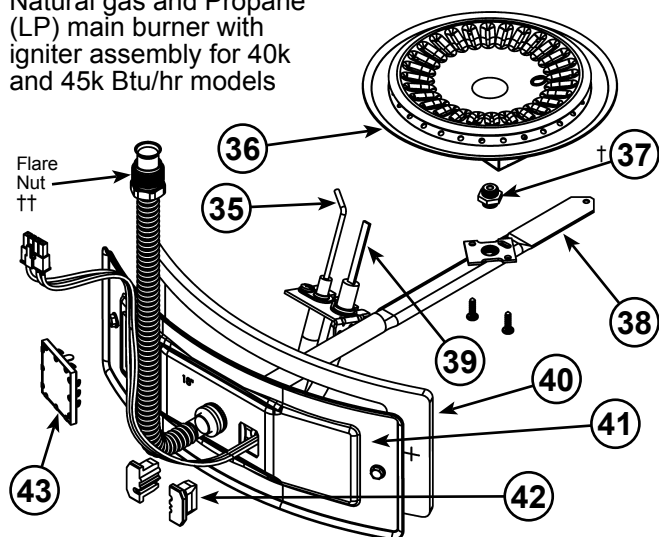
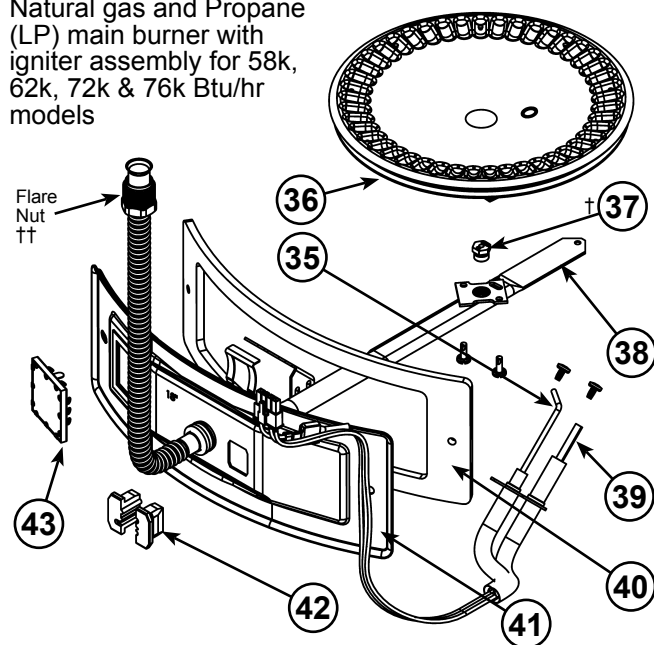

Figure 48
Figure 49
- 15 Manifold Door Assembly (behind outer door) (see Figure 3 & Figure 4) (see also **Figure 48 & Figure 49**)
- 35 Flame Sensor Rod (see Figure 3 & Figure 4) (see also **Figure 48 & Figure 49**)
- 36 Sheet Metal Burner (see Figure 3 & Figure 4) (see also **Figure 48 & Figure 49**)
- 37 Gas Orifice (see Figure 3 & Figure 4) (see also **Figure 48 & Figure 49**)
- 38 Gas Manifold (see Figure 3 & Figure 4) (see also **Figure 48 & Figure 49**)
- 39 Hot-Surface Igniter (see Figure 3 & Figure 4) (see also **Figure 48 & Figure 49**)
- 40 Manifold Door Gasket (see Figure 3 & Figure 4) (see also **Figure 48 & Figure 49**)
- 41 Manifold Door (see Figure 3 & Figure 4) (see also **Figure 48 & Figure 49**)
- 42 Two Piece Grommet With Clip (see Figure 3 & Figure 4) (see also **Figure 48 & Figure 49**)
- 43 Viewport (see Figure 3 & Figure 4) (see also **Figure 48 & Figure 49**)